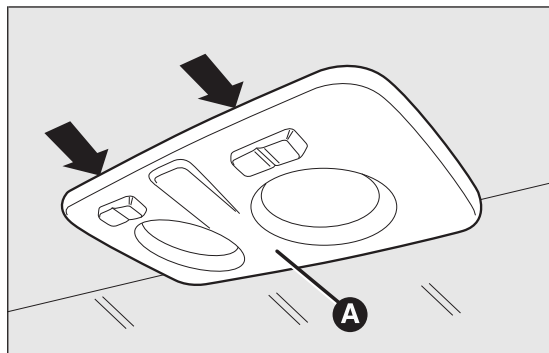
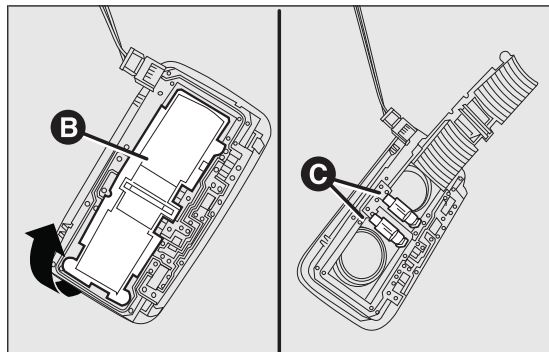

fig. 161
fig. 162
- ☐ operate in the points shown by the arrows and remove ceiling light A fig. 161;
- ☐ open the protective lid B fig. 162;
- ❑ re-close the lid B fig. 162 and secure light A fig. 161 into its housing locking it properly.